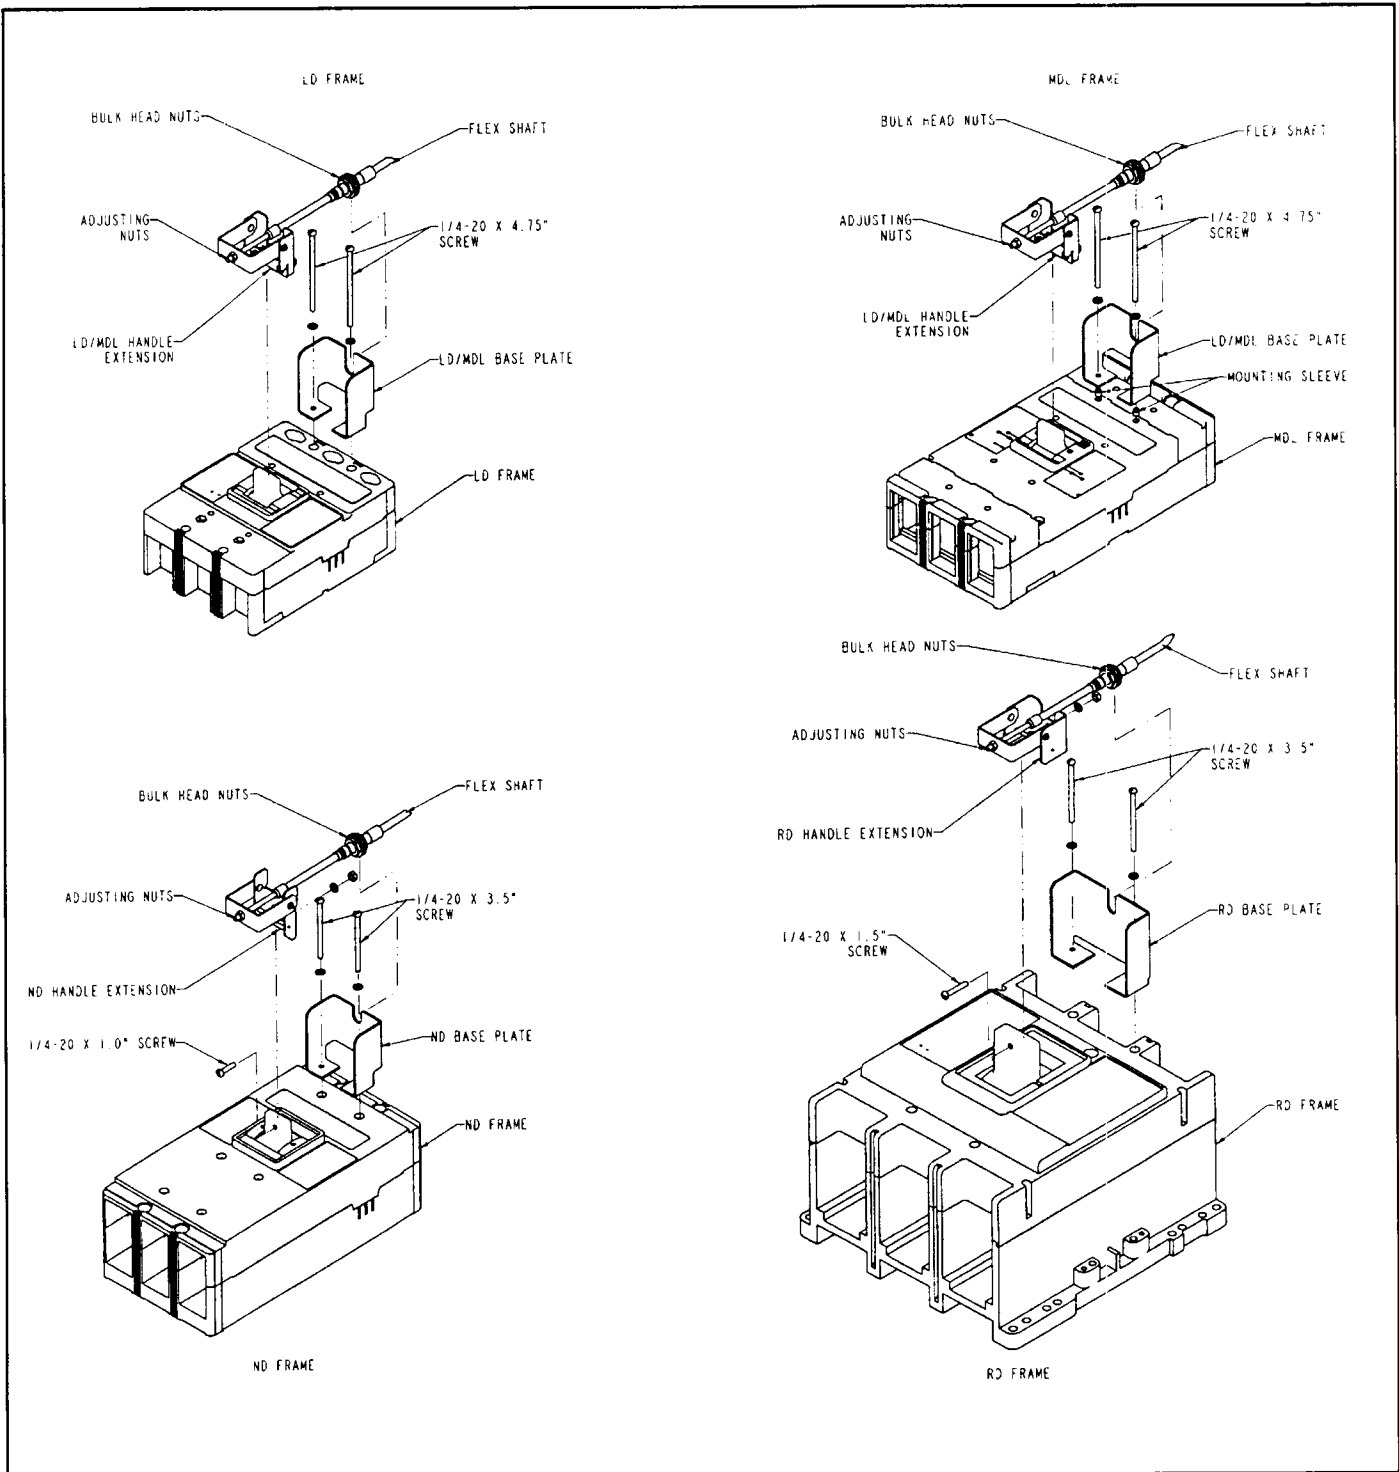

Fig. 1-2 LD, MDL, ND, RD Mechanism Assembly
LD: Attach the base plate and Load end of the breaker to enclosure using the 1/4-20x4.75" screws and lockwashers enclosed. See Figure 1-2 for illustration.
M: Attach the Load end of the breaker to the enclosure using hardware frame parts kit. Attach the base plate to the Load end cover on the (M) type breaker. The load end cover screws are replaced with the (2) 10-32x2" screws and lockwashers enclosed. (Not shown in Figure 1-2).
MDL: Attach the load end of the breaker to the enclosure using hardware from the hardware kit. Attach the base plate to the load end cover of the breaker. The load end cover screws are replaced with the (2) #8-32x2.25" screws, #8 lockwashers, and mounting sleeves enclosed. See Figure 1-2 for illustration.
ND: Attach the Load end of the breaker to the enclosure using hardware from the hardware kit. Attach the base plate to the circuit breaker using the 1/4-20x3.5" screws and 1/4" lockwashers enclosed in the parts kit at the load end of the breaker after removing the (2) load cover screws located between the trip unit and the two load end mounting holes. See Figure 1-2 for illustration.
RD: Attach the Load end of the breaker to the enclosure using the hardware from the hardware kit. Attach the base plate to the circuit breaker using the 1/4-20x3.75" screws and 1/4" lockwashers enclosed in the parts kit at the load end of the breaker. See Figure 1-2 for illustration.
6. Place the outer handle mechanism in the full **ON** position and the circuit breaker in the **ON** position. You must Release Cover interlock to move handle to **ON** position. Place the handle extension assembly onto the breaker handle and secure as shown on Figure 1-2.
8. Actuate the outer handle positions (**ON, OFF, RESET**). If minor adjustments are necessary, refer to the following adjustment checklist and Figure 1-2.